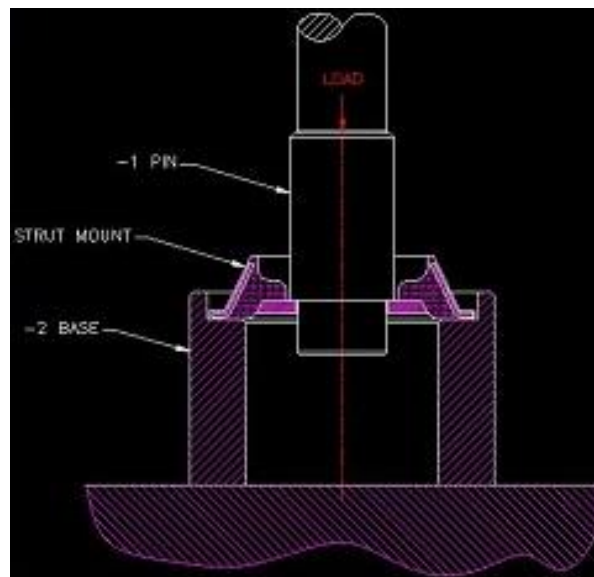

Figure 2: Strut Mount test setup examples.
- To ensure a good elastomer to metal bond, test sample quantities per test plan from each production lot of strut to axial shear failure. Support the outer perimeter of the mount and press out the center sleeve, see Figure 2 example.